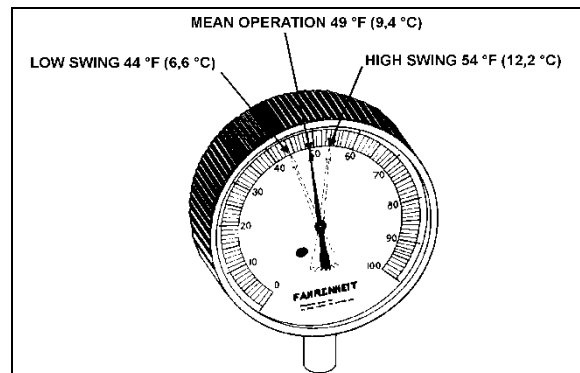

FIGURE 47: HIGH & LOW SWING TEMPERATURE AT REMOTE BULB
6. Check approximately 5 readings of suction pressure at 2-minute intervals and convert to temperature using the temperatures & pressures table (paragraph 7.13). Likewise check the temperature reading at the remote bulb at the same 2-minute intervals and record the low and high swing readings of the needle (refer to Figure 47).